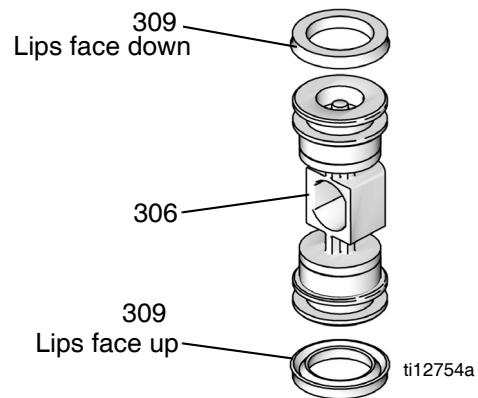

FIG. 6: Air Valve U-cup Installation
1. Lubricate the detent cam (307) and install into the housing.
2. See FIG. 6. Lubricate the u-cups (309) and install on the piston (306) with the lips facing toward the center of the piston.